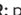

Fig. 56 Centre console: button to open and close rear lid.
- **OR:** press the button  on the centre console >>> **Fig. 56** for at least one second. The button also works when the ignition is switched off.
- **EITHER:** press the  button located on the centre console until the rear lid is closed >>> **Fig. 56**.